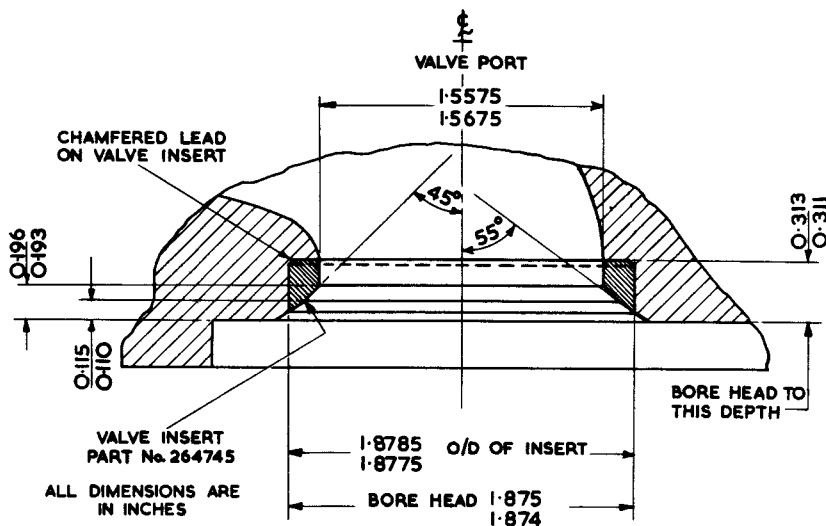

Fig.22 Valve seat inserts
83. The valve guides are pressed into the cylinder heads and if necessary can be removed with a simple extractor. If new guides are fitted the valve seats should be refaced before lapping the valves; the angle of valve seats and faces is 45 deg. The width of new valve seats is given in Table 1. Fig. 22 gives details of the fitting of valve seat inserts; when the inserts are fitted the seats must be recut to the dimensions shown. In addition to routine visual inspection the valve springs should be checked against the figures in Table 6. If a new valve is fitted its crown should be not less than 0.040 in. below the surface of the cylinder head; if necessary the valve should be refaced to obtain this clearance.